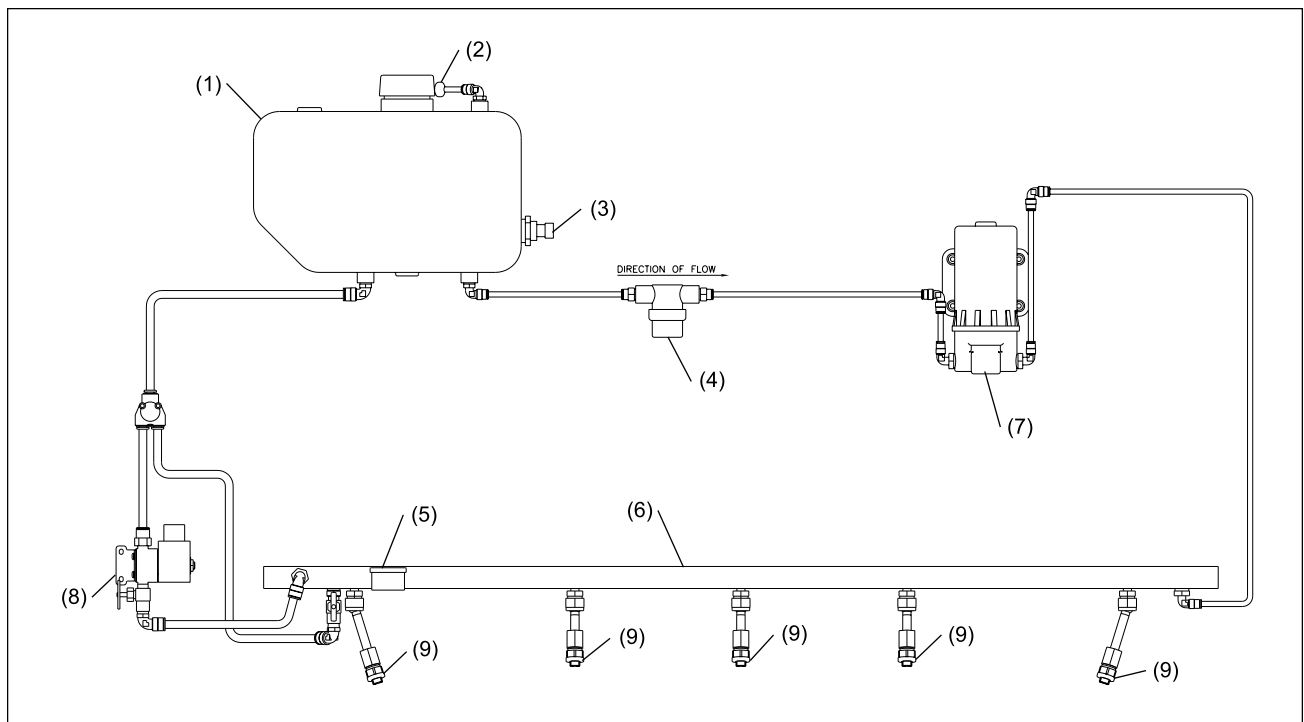

Figure 6-2. Cleaner Spray System
2. The cleaner pump applies cleaning fluid to the lane. Refer to Figure 6-2.